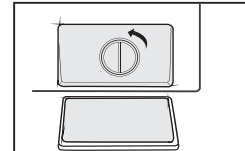

Fig 19
2. Turn the filter down as shown with the figure and take out sundries matters (Fig 19).